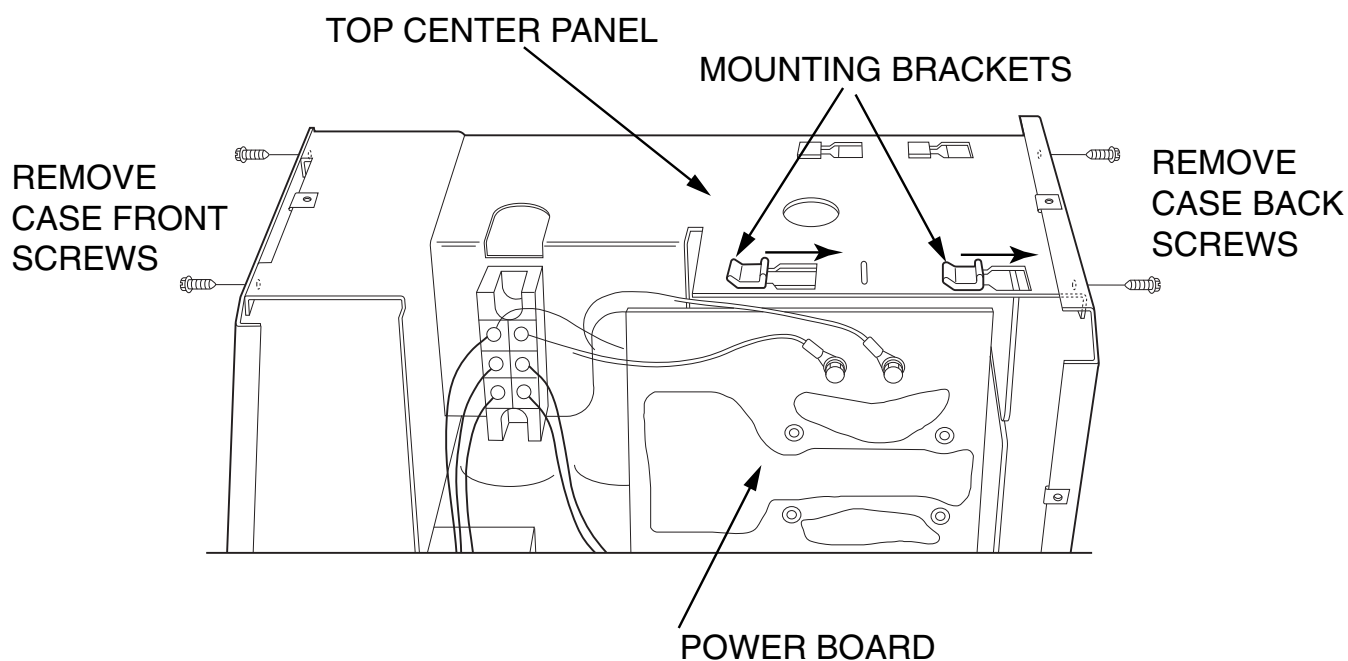

Figure F.15 Heatsink/Power Board Removal
4. Using the 5/16" nut-driver remove the two screws from the top rear of the case back. See Figure F.15.
5. Using the 5/16" nut-driver remove the two screws from the top front of the case front panel. See Figure F.15.
6. Using the slot head screwdriver carefully disengage the heatsink/power board mounting bracket from the top center panel. This can be accomplished by sliding the bracket assembly towards the rear of the machine while at the same time gently lifting up on the top center panel. See Figure F.15.
13. Using the 5/16" nut-driver replace the two screws at the top rear of the case back. See **Figure F.15**.
14. Using the 5/16" nut-driver replace the two screws at the top front of the case front panel. See **Figure F.15**.
9. With the 5/16" nut-driver remove the two screws from the top rear case back. See **Figure F.15**.
15. Install the two screws into the top rear case back. See **Figure F.15**.